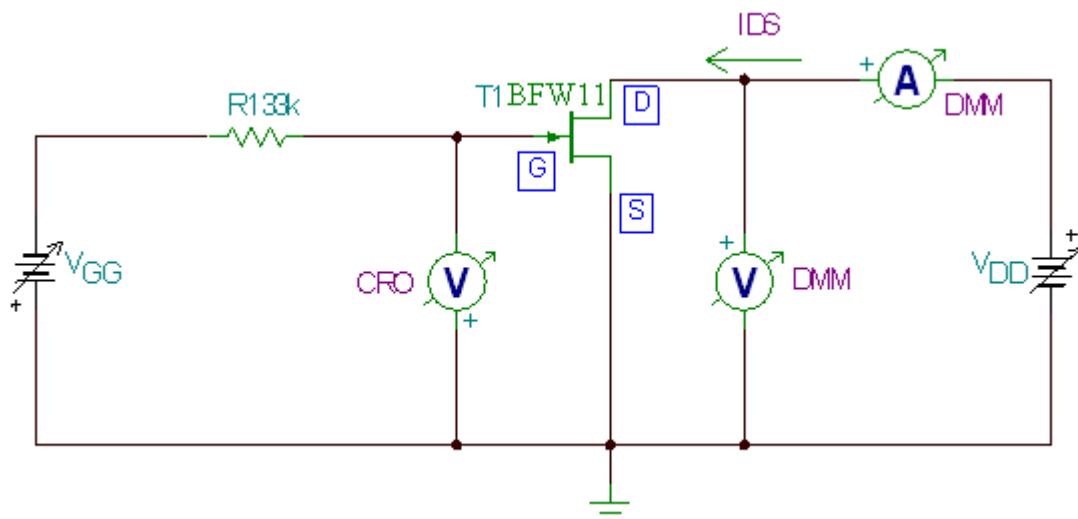

Fig 7.1 Circuit for the JFET Characteristics
2. Connect the circuit in fig7.1
3. Explain the function of 33K resistor in the circuit of fig7.1